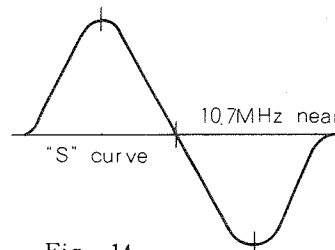

Fig. 14
①	High freq. end	10.7 MHz $\pm$ 1MHz sweep	Detune T202 and then adjust T201 and T101
②	Repeat step ①
- Adjust as indicated until the waveform shown in Fig. 14 is obtained.